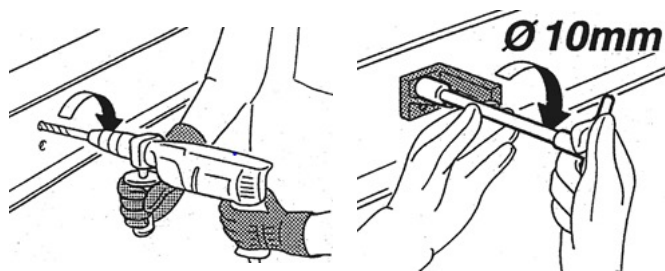

fig.28
1. Drill the holes for fixing the stops on the beam web (at the limits of the working area), at a height corresponding to that of the trolley pads. (fig.28)
2. Assemble the stops and fix them using suitable screws ($\varnothing$ 10 mm, tightening torque 48 Nm) on both sides of the beam. (fig.28)